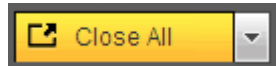

Figure 5-6
- Section 2: There are channel number and one button: Start all. Start all button is to enable/disable all-channel real-time monitor. Click it the button becomes yellow. See Figure 5-6.